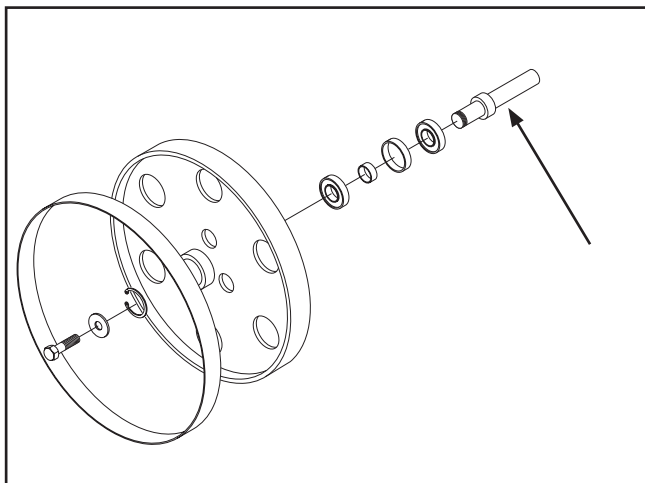

Figure 63. Location for installing shims on lower wheel shaft.
2. Install several 25mm shim washers on the shaft (**Figure 63**) equal in thickness to the distance between the coplanarity gauge and the wheel.